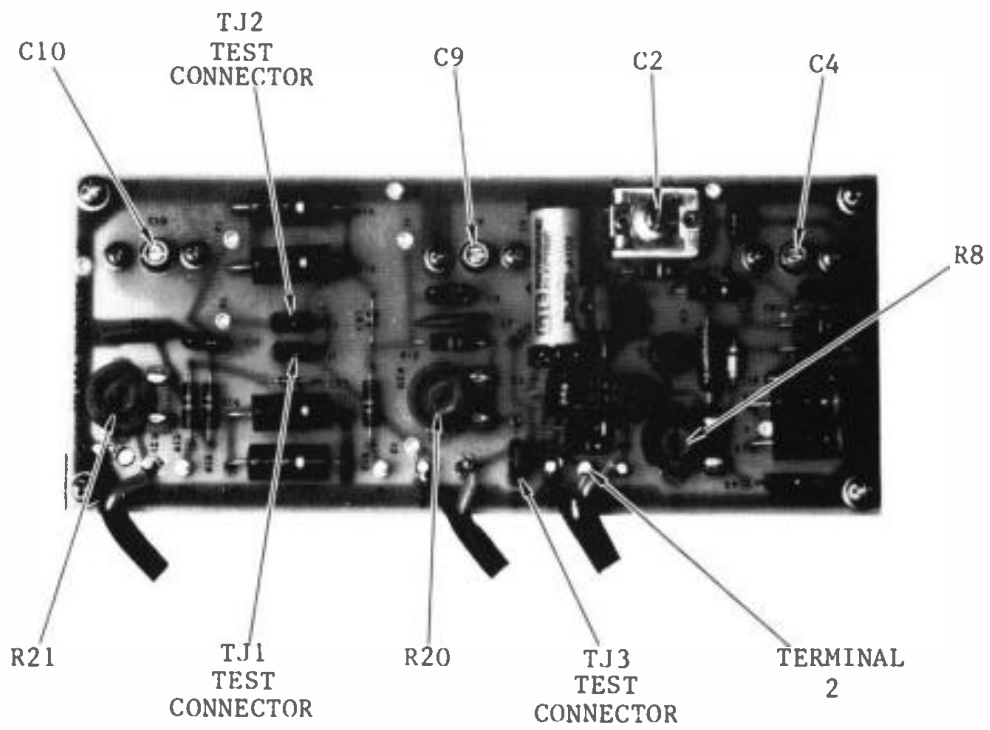

Figure 5-4. Directional Coupler 2A1 Adjustment Locations
- b. Check that test connectors TJ1 and TJ2 are in the horizontal position and TJ3 is in the upper (left) position. Refer to figure 5-4.